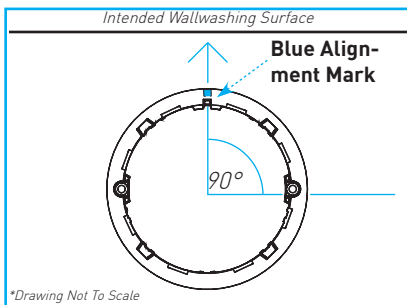

Fig. 16
Determine wall plane or direction in which trim is to aim, positioning side of adaptor with blue line closest to or pointing in that direction (*Fig. 16*).
**Important:** For wallwash application, aim squarely / directly at adjacent (target) wall (*Fig. 16*).